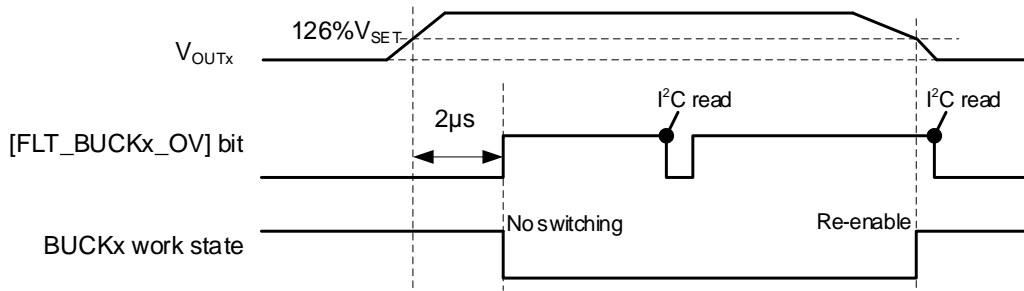

Figure 7. Output OV Protection
The SY70301 protects against output overvoltage (OV) and undervoltage (UV) fault conditions. When the output voltage reaches 126% of V_{SET} for a duration of $2\mu s$, the buck converter enters no-switching mode. Both high side and low side MOSFETS are turned off when a zero crossing is detected. The buck resumes normal operation when the output voltage drops below 126% of V_{SET} . Output OV fault detection is disabled during the normal power-up, shutdown, and DVS periods. See Figure 7.